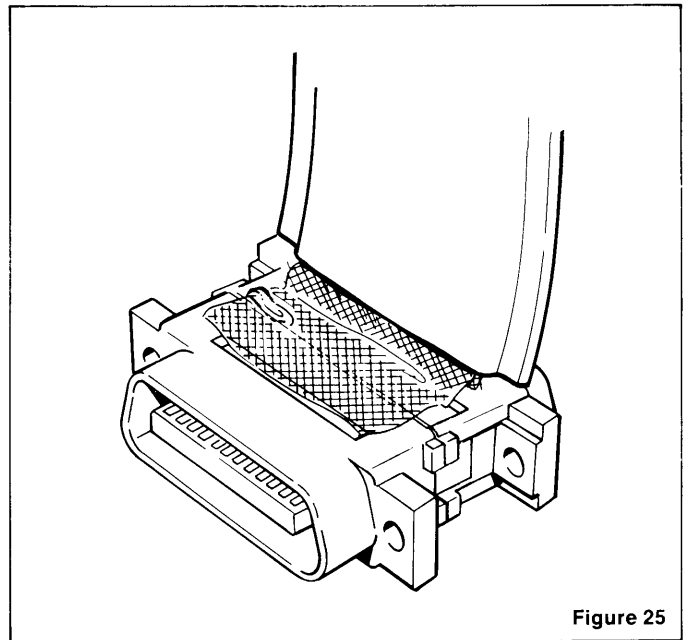

Figure 25
9. Bring connector covers back to back, extending the shield over connectors toward their mating face, while poking the shield wire through the shield (Figure 25).